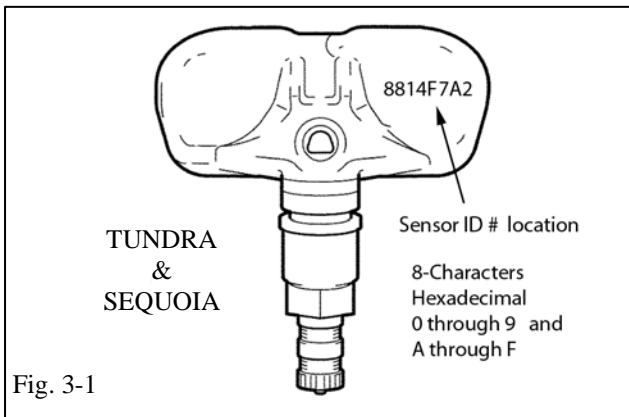
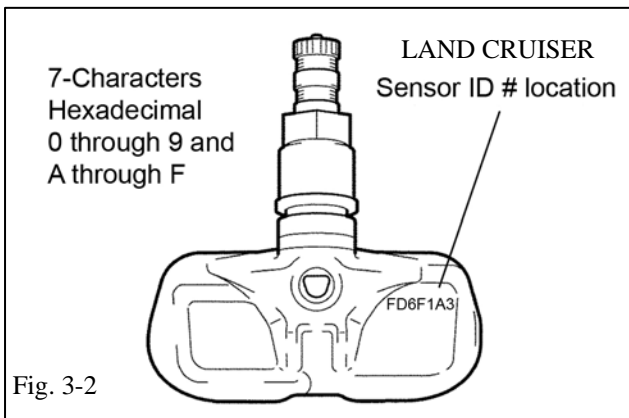

Fig. 3-1
Fig. 3-2
- (a) If previously removed sensor is 20 degree sensor, proceed to step 3 (c). If previously removed sensor is 40 degree sensor (e.g. Tundra styled steel wheels), you must install new 20 degree sensors into accessory wheels. When installing new 20 degree sensors, you **MUST** record sensor ID codes for all 4 wheels and register these 4 new ID codes (Fig. 3-1) with the vehicle ECU. Each sensor has a unique sensor ID code. The sensor ID code is a 7 or 8-character hexadecimal string comprised of numbers 0 through 9 and letters A through F. See Fig. 3-1 or Fig. 3-2 for example code and location.